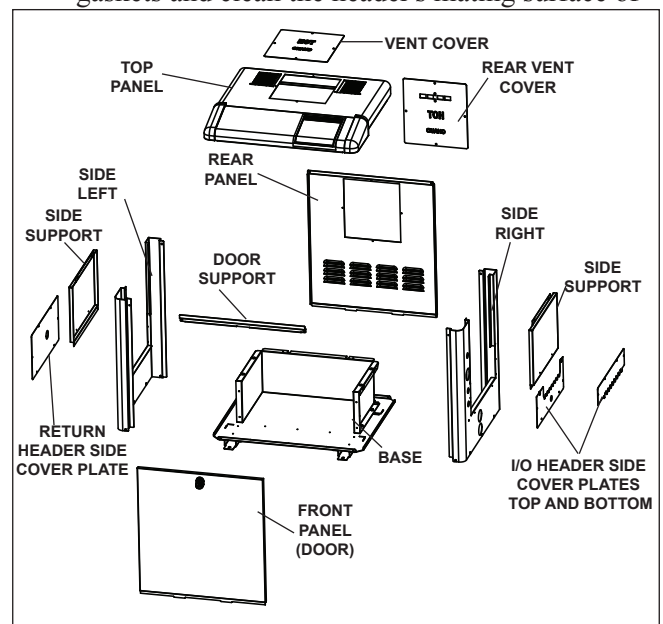

Figure 13. LXi Panel Identification
1. For an existing installation, drain the heater by removing the two (2) drain plugs on the inlet/outlet header and the drain plug on the return header.
3. Remove the I/O header side cover plates, top and bottom. See Figure 13.
4. Remove the return header side cover plate. See Figure 13.